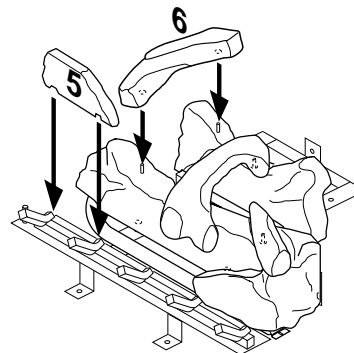

Figure 49 - Installing Logs No. 5 and No. 6
5. Place log #5 (base log) onto the front left part of the grate making sure the notches fit over the prongs of the grate). See Figure 49.
6. Place log #6 (left log) onto two pins on the left side of back and front log. See Figure 49.